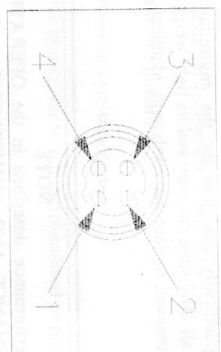

Fig. 3 Microphone plug pin numbers viewed from rear of pin receptacle.
5. The wires must now be soldered to the pins as indicated in the above wiring tables. A vise or clamping tool is available. It should be used to hold the pin receptacle body during the soldering operation, so that both hands are free to perform the soldering. A vise or clamping tool is not available, the pin receptacle body can be held in stationary position by inserting it into the microphone jack on the front panel. The numbers of the microphone plug are shown in Fig. 3, as viewed from the back of the plug. Before soldering the wire to the pins, pre-tin the wire receptacle of each pin of the plug.